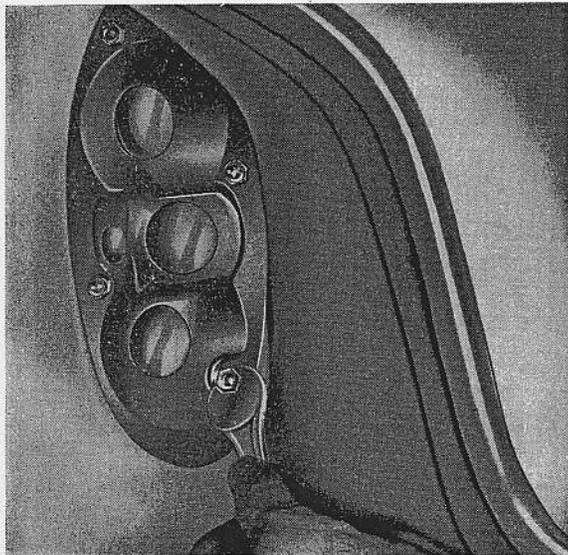

Fig. 26. Dismantling rear lamp (bulbs removed).
1. Unscrew the four nuts from inside the luggage compartment, see Fig. 26.